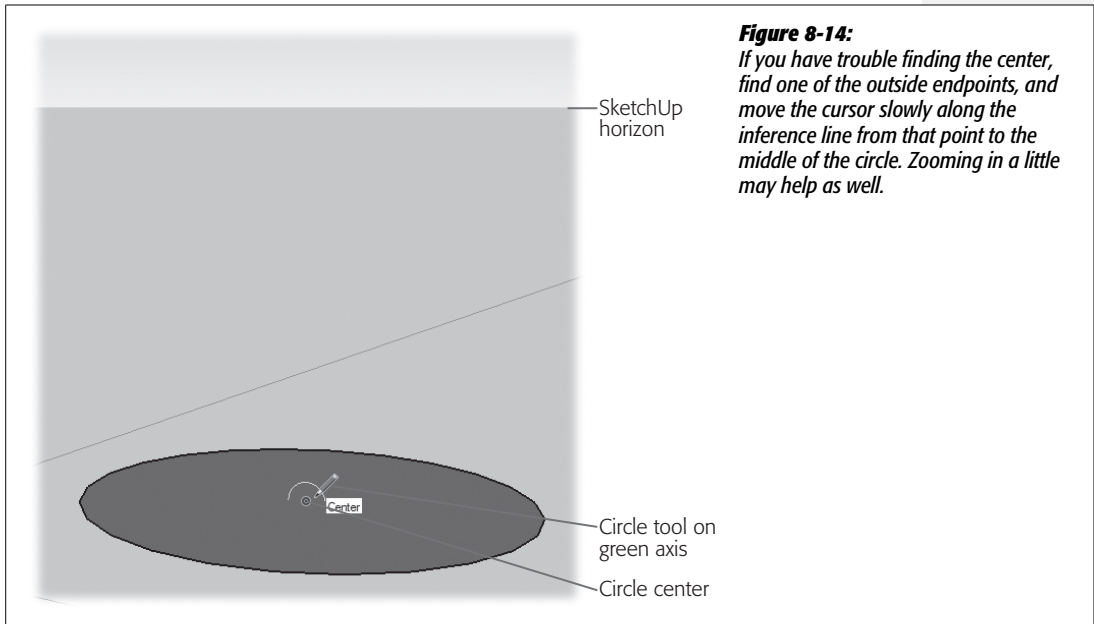

Figure 8-14:
4. Still holding Shift, move the cursor to the center of the circle, as shown in Figure 8-14, and then click.